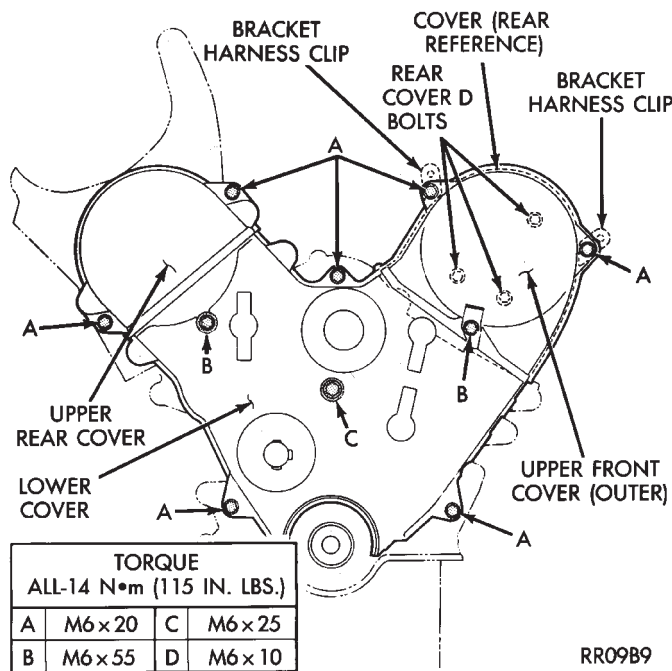

Fig. 11 Timing Belt Covers
- (11) Remove timing belt covers (Fig. 11).
- (1) Remove the upper front outer timing belt cover by loosening the three attaching bolts. (Fig. 11).
- (2) Inspect both sides of the timing belt drive & back. Replace belt if any of the following conditions exist.